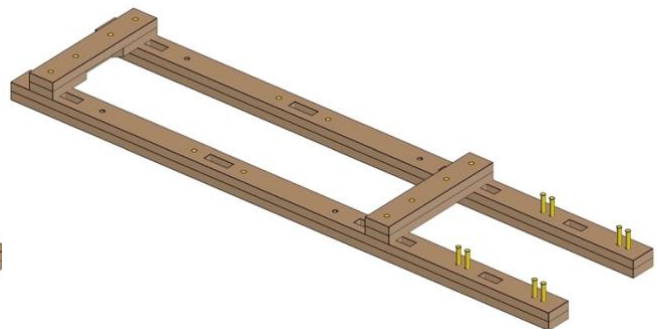

Fig. 12
- *Fig. 12* shows the completed process.